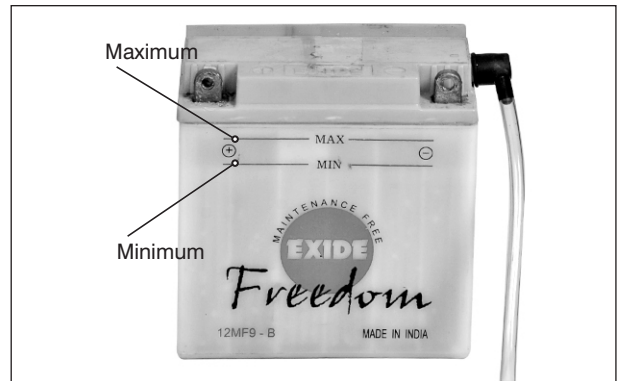

Fig. 5.66
- The electrolyte level must be between the minimum level and maximum level mark provided on the battery case. (Fig. 5.66)
- Add distilled water as necessary, to ensure the electrolyte is above the minimum level line but not above the maximum level line. (Fig. 5.66)